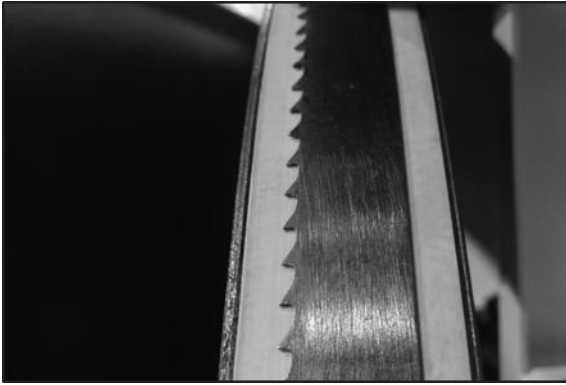
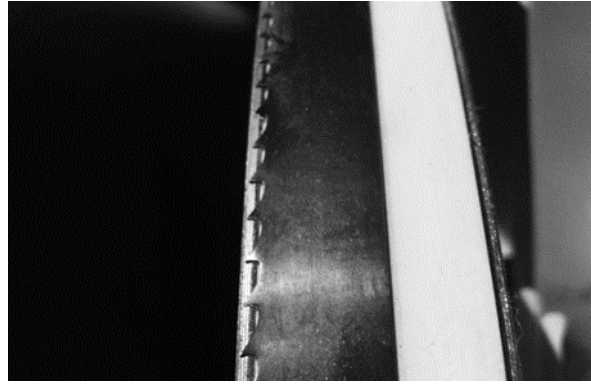

Fig. 45 - Correct
Fig. 46 - Incorrect
4. Check the blade tracking through the side window. Rotate the wheel at least three times or until the blade is centered (Fig.45, Fig.46)